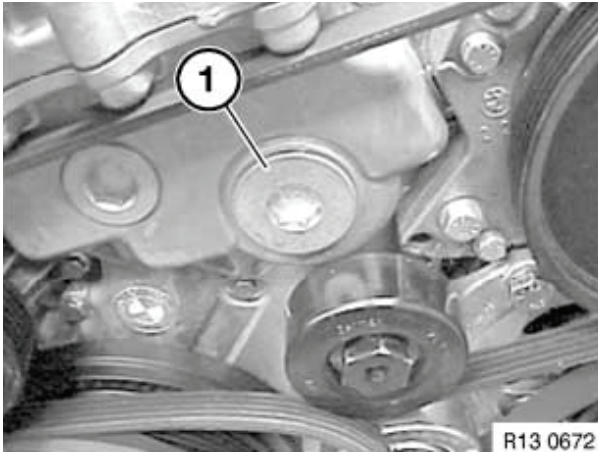

Figure 6-23
9. Remove plug (Figure 6-23, (1)).